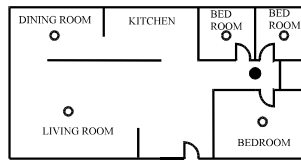

Figure 1: LOCATIONS FOR PLACING SMOKE DETECTORS FOR SINGLE RESIDENCE WITH ONLY ONE SLEEPING AREA
- Install a smoke detector in the hallway outside every separate bedroom area, as shown in Figure 1. Two detectors are required in homes with two bedroom areas, as shown in Figure 2.